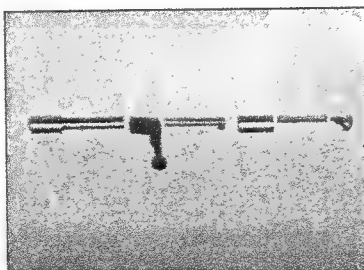

Figure 14
8. Reassemble bolt handle, striker, bushing and spring. (Fig. 14)